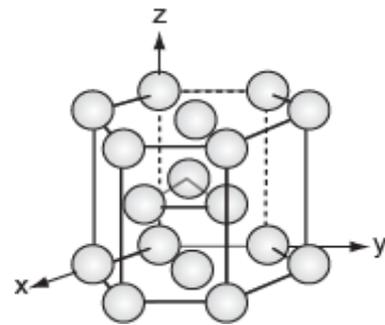

Figure C35. The HCP unit cell.
**E33.** (a) The cleavage-plane (the plane of easy fracture) in the HCP structure is the (001) plane. Mark it on Figure C35.